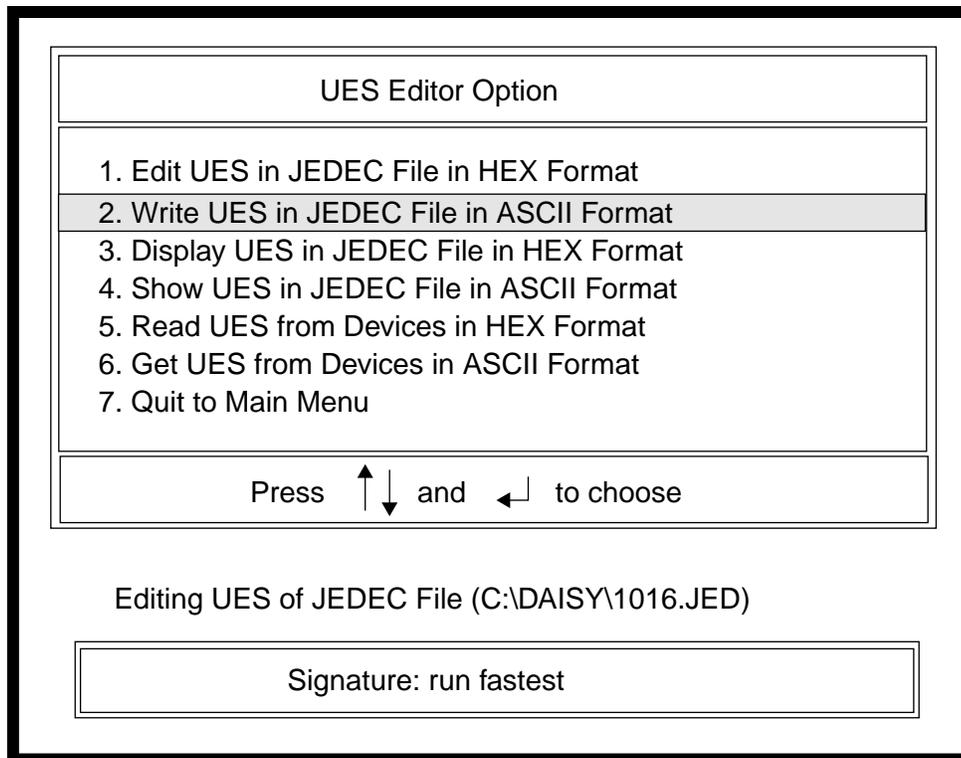

Figure 3-51. Editing a UES (ASCII Format)
2. Type in the name of the JEDEC file to edit. If you want to edit a .jed file from another drive or directory besides your current working directory, type the full path in the box. If you cannot recall the name of your file, press **Return** and the .jed files available in your default (working) directory appear. Use the arrow keys to highlight a .jed file from the list box on the right. Press **Return** and Figure 3-51 appears.